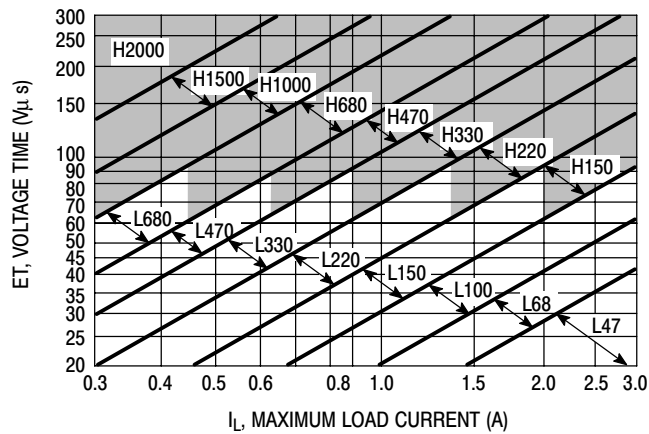
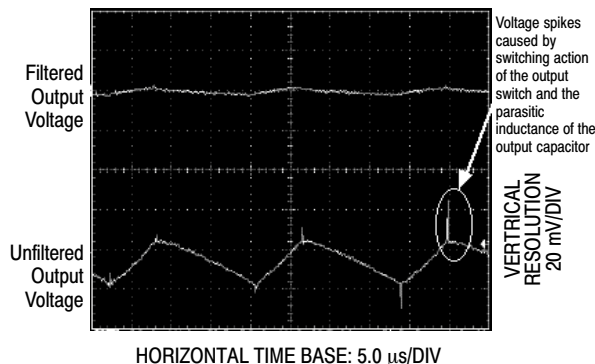

Figure 22. LM2576-ADJ
Figure 25. Output Ripple Voltage Waveforms
4. Inductor Selection (L1) A. Use the following formula to calculate the inductor Volt x microsecond [V x μs] constant: $E \times T = (V_{in} - V_{out}) \frac{V_{out}}{V_{in}} \times \frac{10^6}{F[\text{Hz}]} \text{ [V x } \mu\text{s]}$ B. Match the calculated E x T value with the corresponding number on the vertical axis of the Inductor Value Selection Guide shown in Figure 22. This E x T constant is a measure of the energy handling capability of an inductor and is dependent upon the type of core, the core area, the number of turns, and the duty cycle. C. Next step is to identify the inductance region intersected by the E x T value and the maximum load current value on the horizontal axis shown in Figure 25. D. From the inductor code, identify the inductor value. Then select an appropriate inductor from Table 2. The inductor chosen must be rated for a switching frequency of 52 kHz and for a current rating of $1.15 \times I_{Load}$. The inductor current rating can also be determined by calculating the inductor peak current: $I_{p(\text{max})} = I_{Load(\text{max})} + \frac{(V_{in} - V_{out}) t_{on}}{2L}$ where t_{on} is the “on” time of the power switch and $t_{on} = \frac{V_{out}}{V_{in}} \times \frac{1.0}{f_{osc}}$ For additional information about the inductor, see the inductor section in the “External Components” section of this data sheet.	4. Inductor Selection (L1) A. Calculate E x T [V x μs] constant: $E \times T = (25 - 8.0) \times \frac{8.0}{25} \times \frac{1000}{52} = 80 \text{ [V x } \mu\text{s]}$ B. E x T = 80 [V x μs] C. $I_{Load(\text{max})} = 2.5 \text{ A}$ Inductance Region = H150 D. Proper inductor value = 150 μH Choose the inductor from Table 2.
The regulator output voltage may also contain short voltage spikes at the peaks of the sawtooth waveform (see Figure 25). These voltage spikes are present because of the fast switching action of the output switch, and the parasitic inductance of the output filter capacitor. There are some other important factors such as wiring inductance, stray capacitance, as well as the scope probe used to evaluate these transients, all these contribute to the amplitude of these spikes. To minimize these voltage spikes, low inductance capacitors should be used, and their lead lengths must be kept short. The importance of quality printed circuit board layout design should also be highlighted.
In order to minimize the output ripple voltage it is possible to enlarge the inductance value of the inductor L1 and/or to use a larger value output capacitor. There is also another way to smooth the output by means of an additional LC filter (20 μ H, 100 μ F), that can be added to the output (see Figure 34) to further reduce the amount of output ripple and transients. With such a filter it is possible to reduce the output ripple voltage transients 10 times or more. Figure 25 shows the difference between filtered and unfiltered output waveforms of the regulator shown in Figure 34.